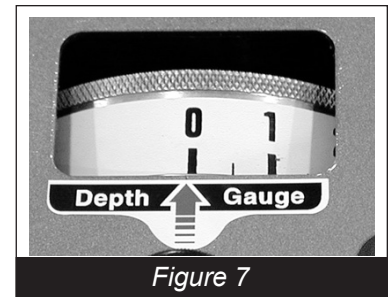

*Figure 6*
- Pull knob up on the Depth Control Handwheel (*Figure 6*), slowly turn Handwheel in DOWN direction (counter clockwise) until blade comes in contact with slab surface.